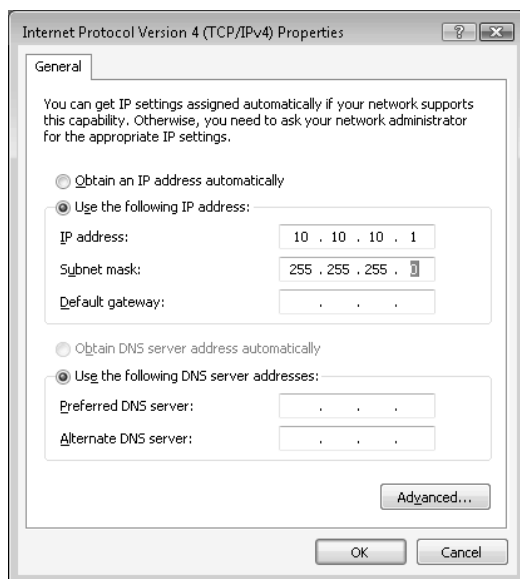

Figure 28 Internet Protocol Version 4(TCP/IPv4) Properties
- 6 In the 'Internet Protocol Version 4 (TCP/IPv4) Properties' dialog (see Figure 28) select the option **Use the following IP address** and enter your computer's **IP Address** and **Subnet Mask**.